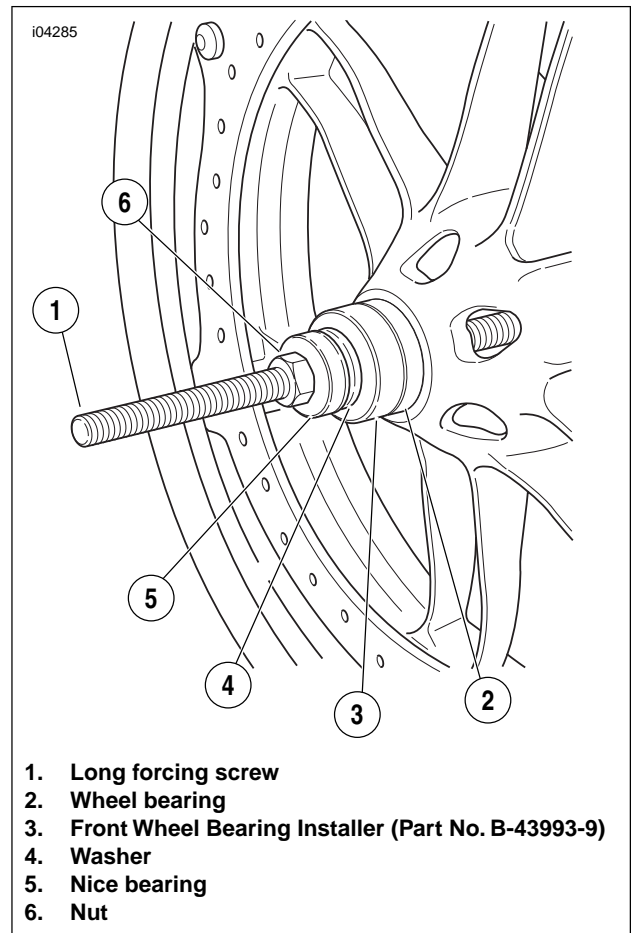

Figure 2-14. Installing Wheel Bearings
2. See Figure 2-14. Sparingly apply EXTREME PRESURE LUBRICANT (Part No. J-23444-A) to the threads of the long forcing screw (1) to prolong service life and ensure smooth operation.
3. Insert a **new** wheel bearing (2) squarely into the hub, with the lettered side pointing out (away from the wheel).
4. Slide the FRONT BEARING INSTALLER (Part No. B-43993-9, from kit Part No. B-43993-50) (3) onto the forcing screw (1), with the smaller diameter toward the bearing bore.
5. Install a washer (4), Nice bearing (5) and nut (6) onto the forcing screw (1).
6. While holding the forcing screw (1), tighten the nut (6) until the bearing is seated firmly against the shoulder inside the bearing bore in the wheel hub.